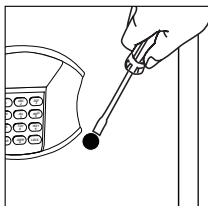

Figure 1
1. Remove override key cover with small screwdriver (Figure 1).